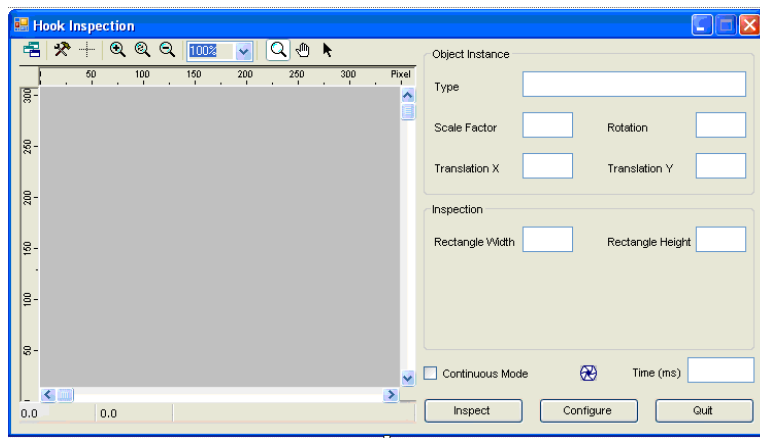

Figure 30 VB .NET Form for Tutorial 3
1. On your application form, add a group box named **InspectionFrame** and add two text boxes, the first text box named **WidthText** and the second named **HeightText**. Set up your form as illustrated in Figure 30.